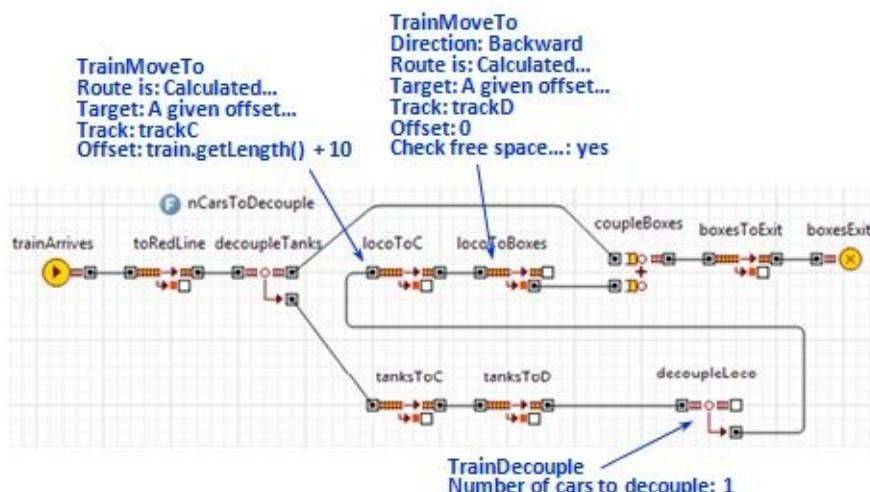

Figure 9.19 The 2nd step of classification: loco returns to box cars, picks them up, and drives away
20. Add more objects to the flowchart and set their parameters as shown in Figure 9.19. Leave the parameters of the last three objects *coupleBoxes*, *boxesToExit* and *boxesExit* at their default values. Note that the output port of *locoToBoxes* is different: it is *outHit* port.